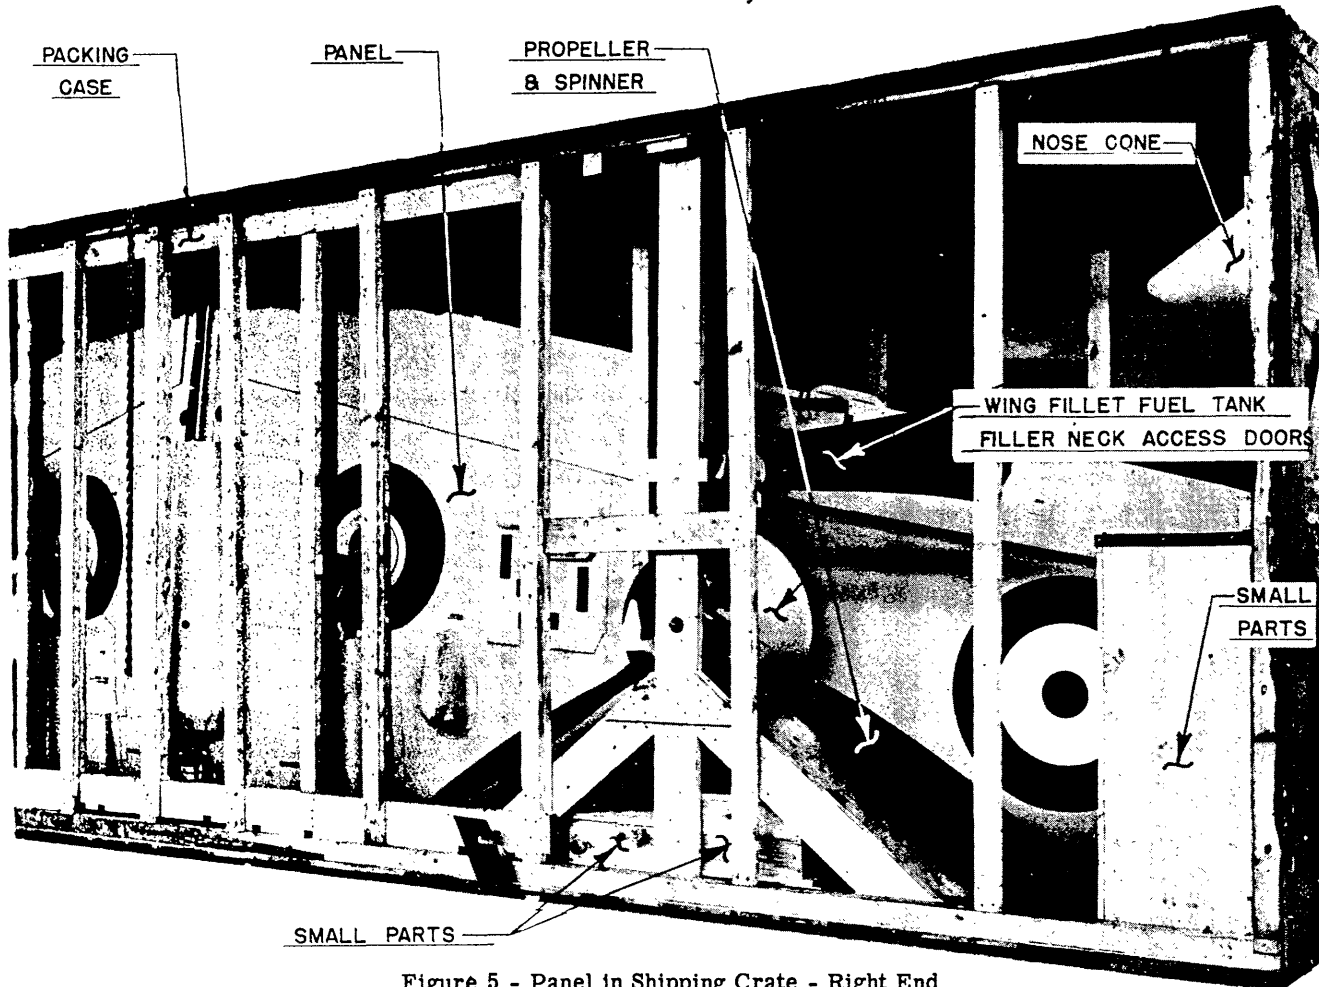
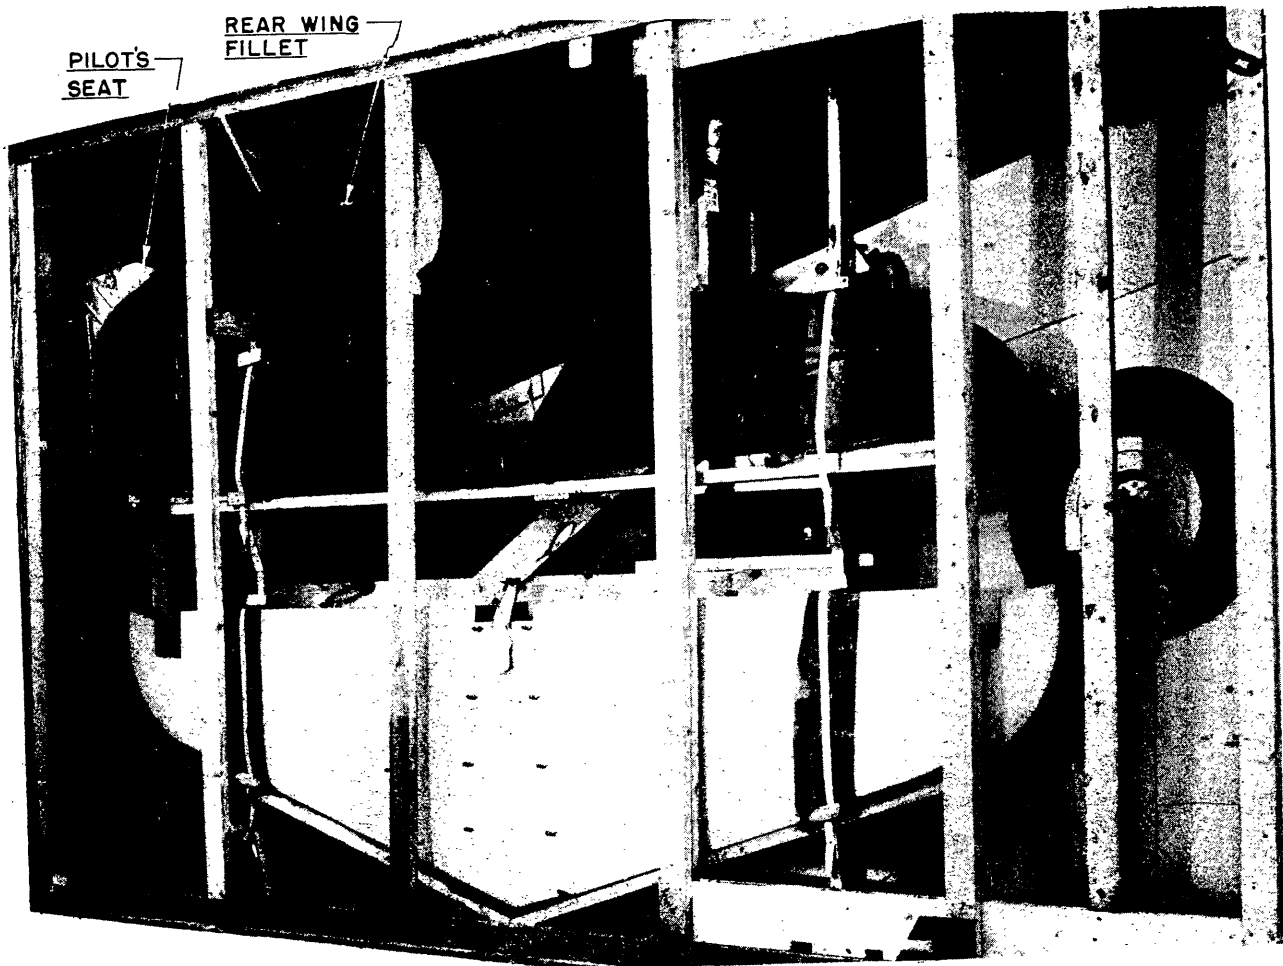

Figure 5 - Panel in Shipping Crate - Right End
Figure 6 - Wing Panel Packing Crate - Left End
a. General. - Each airplane is shipped in two wooden crates. The larger crate (35 ft. 6 inches long; 4 ft. wide and 10 ft. high, displacing 1420 cubic feet) contains one complete wing panel with landing gear installed. (See figure 5 and figure 6.) After removing the side sections marked for first removal, a box of small parts including wing and stabilizer fillet units, small cowling sections and miscellaneous fittings will be found in the lower right end of the shipping crate. Directly above this box the nose cone of the propeller spinner is fastened to the end section of the crate. To the left of this box, strapped to two perpendicular frame members is the wing fillet section containing the two wing tank filler cap access doors. The propeller assembly is mounted to the left of this fillet in an inverted V-shaped cradle of 2 in. x 8 in. and perpendicularly braced by two 2 in. x 8 in. The propeller electric motor and other small parts to complete the propeller assembly are packed in two boxes at the base of the propeller cradle.